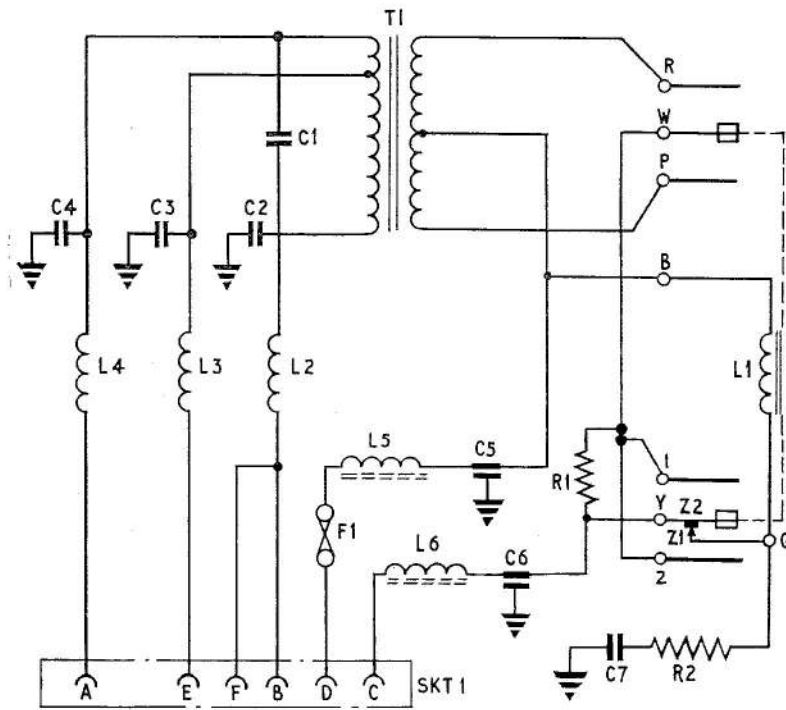

Fig. 3. Circuit diagram
7. A radio frequency suppression network is included consisting of C2, C3, C4, C5, C6, L2, L3, L4, L5 and L6. Spark quenching is provided by capacitors C1 and C7 (*fig. 3*).